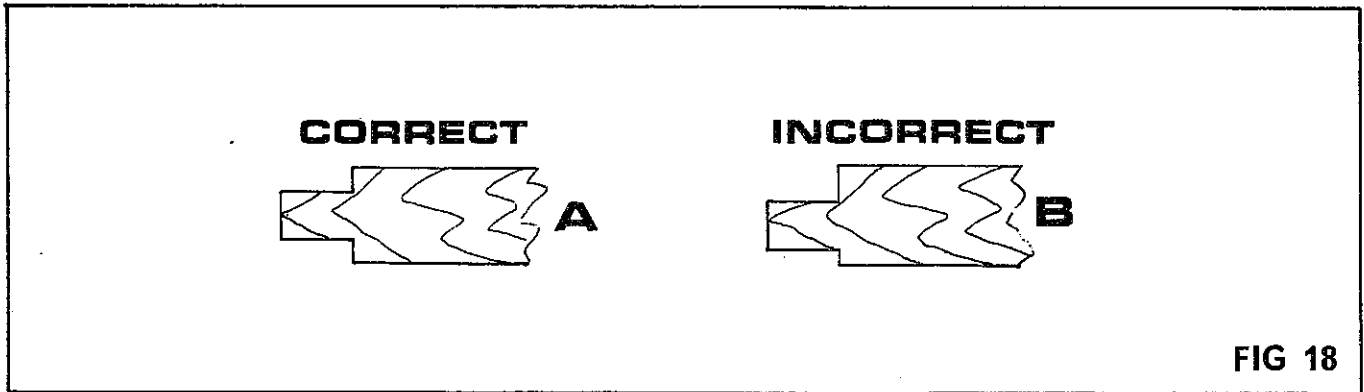

FIG 18
3. To check this setting, feed a short piece of timber from the rear, along both sides of the riving knife. If riving knife is set correctly the blade will cut equal shoulders as shown in FIG 18 (A) and when set incorrectly, unequal shoulders as shown in FIG 18 (B).